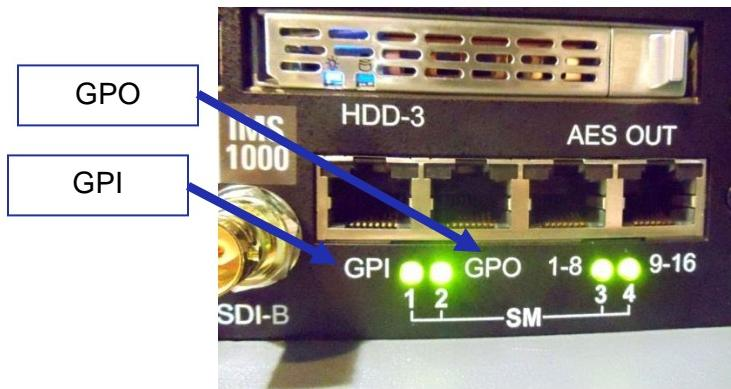

Figure 23: GPI/GPO Connectors
- Plug one shielded CAT5 or CAT6 cable end into the connector labeled GPI on the IMS1000 board (Figure 23). Install a ferrite core clamp near the connector closest to the IMS1000. Refer to Section 25 for more information on ferrite core clamp installation.
- Take another shielded CAT5 or CAT6 cable and plug the end into the IMS1000 connector labeled GPO (Figure 23). Install a ferrite core clamp near the connector closest to the IMS1000. Refer to Section 25 for more information on ferrite core clamp installation.